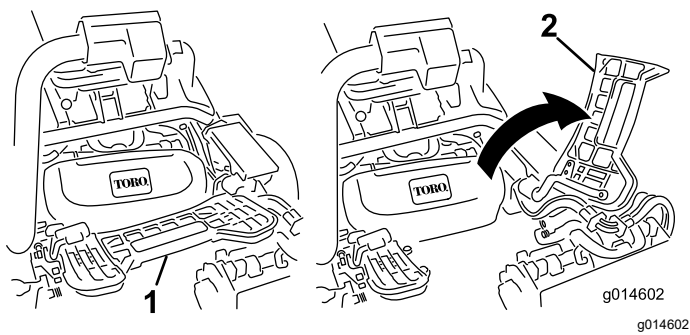

Figure 68
2. Lift up on the foot rest and swing it open, allowing access to the center cutting unit position (Figure 68).